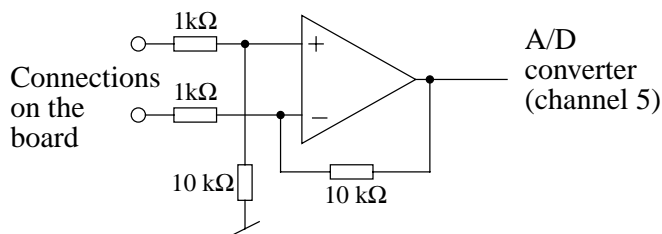

Figure 8: Wiring scheme of the differential connections available for channel 5.
- The two inputs of an amplifier are available at the input of channel 5, as described in figure 8.